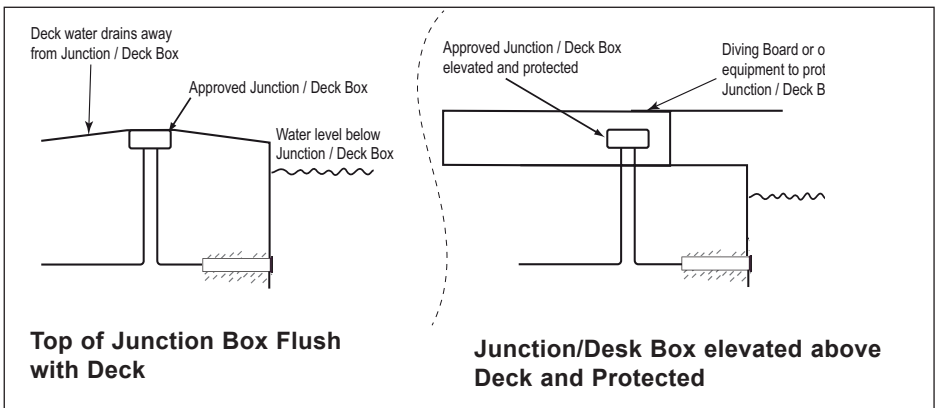

Figure 2
- The junction/deck box must be sealed to the conduit to prevent water from getting into the box. See Figure 2 below.
See *Figure 2* on page 3 for junction box installation in Canada.